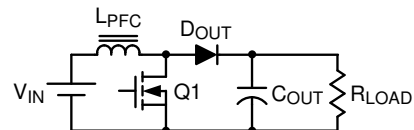

Figure 2. Typical Boost Converter
Figure 2 shows a typical Boost converter. When the MOSFET turns on with a fixed on-time (T_{ON}), the inductor current can be calculated by the following equation (1).